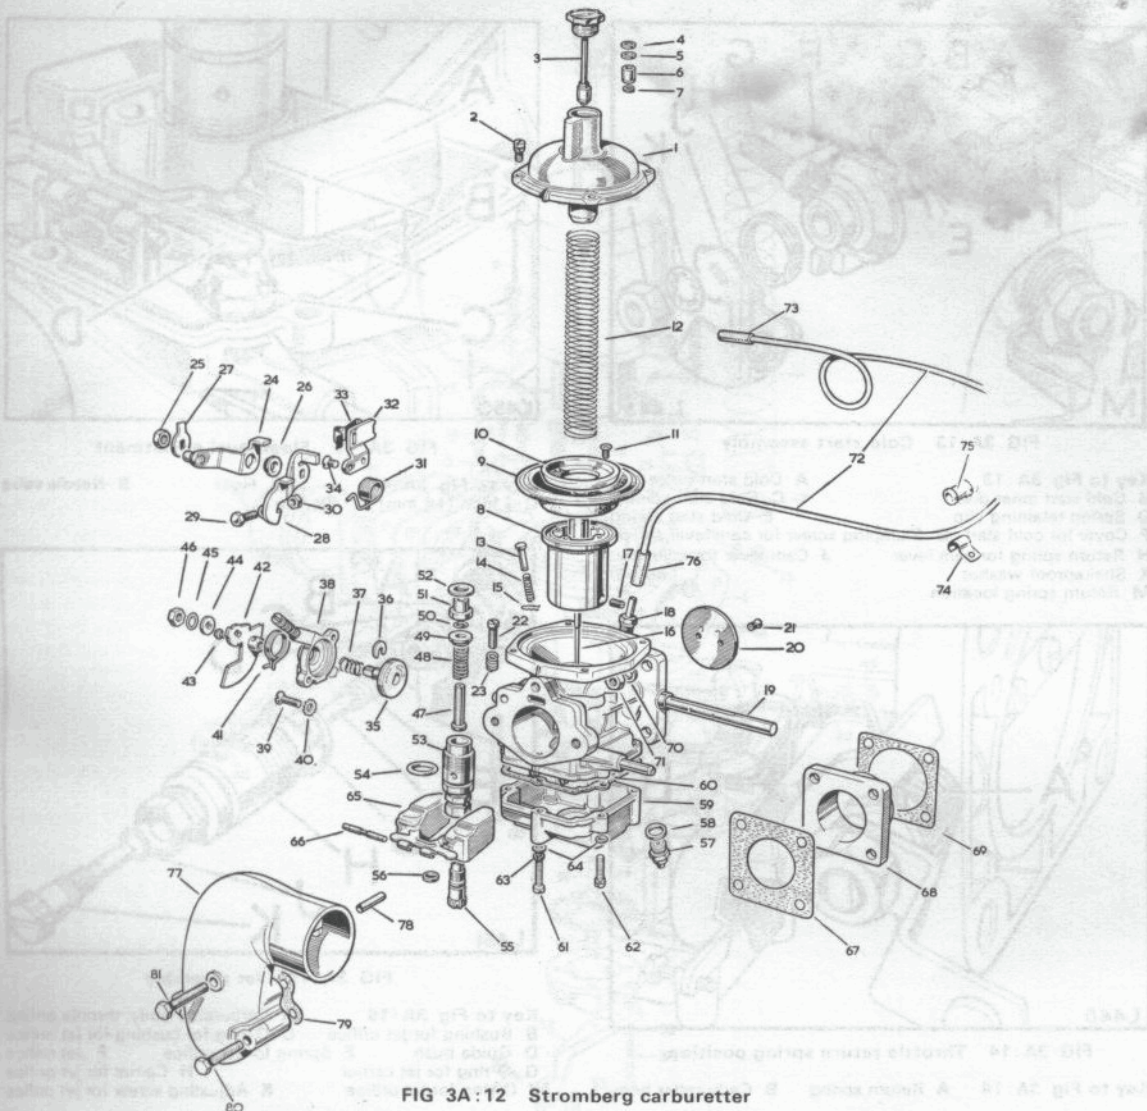

FIG 3A:12 Stromberg carburetter
In this Section refer to FIG 3A:17.
- Key to Fig 3A:12**